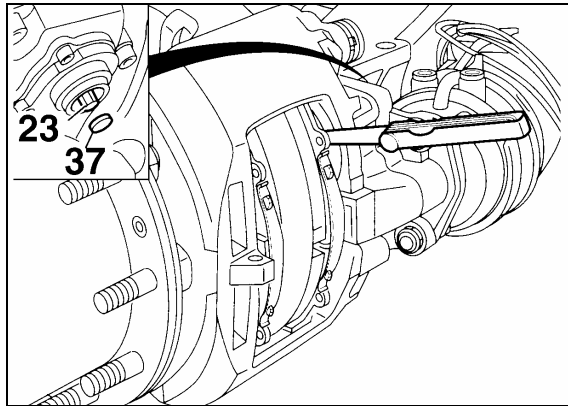

FIGURE 36: RUNNING CLEARANCE
- a) Insert a feeler gauge 0.028 inch (0.7 mm thickness) between tappet and pad backplate (Fig. 36). Turn adjuster pinion clockwise until 0.028 inch (0.7 mm) clearance is achieved. Replace cap (37) (Prévost # 641313).
- b) To ensure a constant running clearance between the rotor and pads, the brake is equipped with an automatic adjuster unit. When the pads and rotor wear, the running clearance between the pads and rotor increases. The adjuster (23, Fig. 36) and turning device turn the threaded tubes by the amount necessary to compensate the wear.